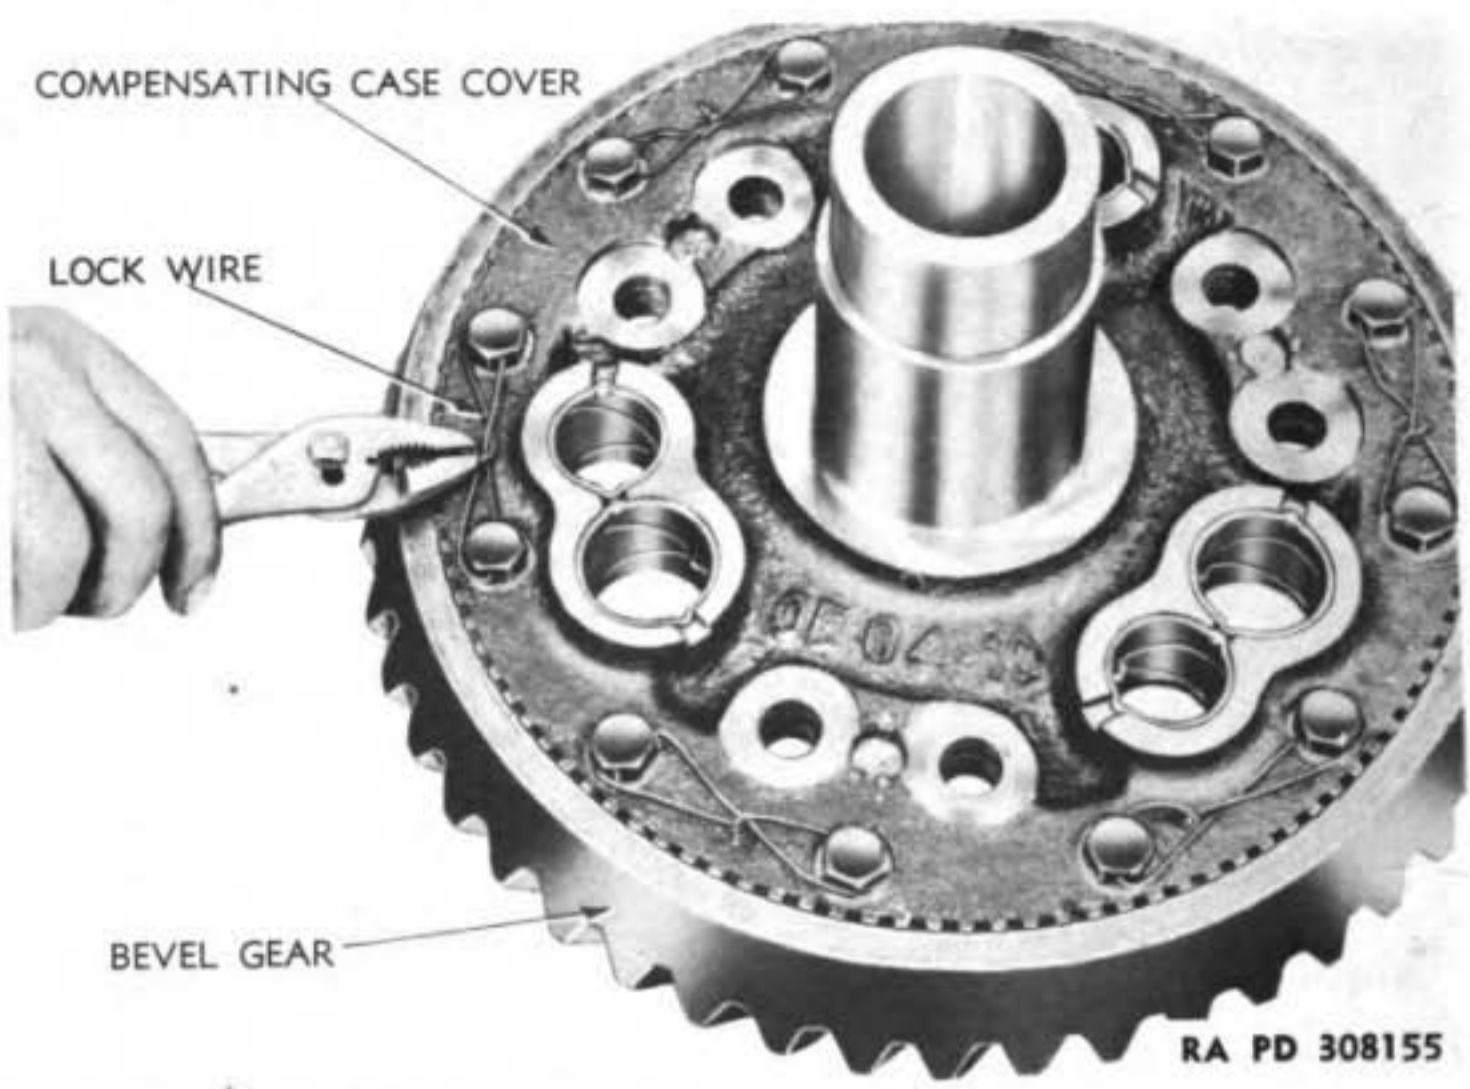

Figure 53 – Installing Bevel Gear on Compensating Case Cover
(4) **ASSEMBLE DIFFERENTIAL GEAR ASSEMBLY.** Lay bevel gear on bench, line up bolt holes in bevel gear with those in left compensating case cover and lower cover into gear. Attach to gear with 12 drilled head cap screws. After cap screws are tightened securely, install lock wire in each pair of cap screws, crossing wires (fig. 53).